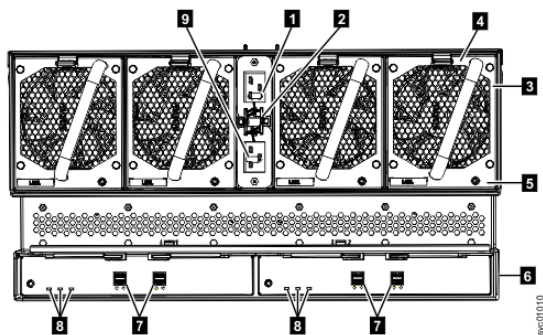
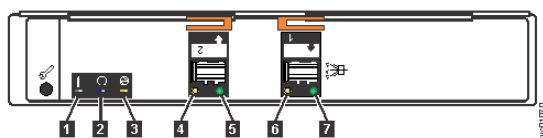

Figure 204. LEDs on the back of the expansion enclosure
Figure 205. LEDs on the back of the expansion canister
Table 68 on page 227 explains the function and status that is indicated by each of the LEDs. The power cords for each PSU are accessible from the rear of the expansion enclosure (1), as shown in Figure 204 on page 229.
Figure 204 on page 229 shows the rear view of a expansion enclosure. LEDs on the rear of the enclosure provide information about each fan module, each expansion canister, and SAS links.
The expansion enclosure has four fans. Each fan has one LED; for example, Figure 204 on page 229 shows the location of the LED (5) for fan number four. When a fan is operating normally, the LED is not lit. If a fault is detected, the amber LED is lit.
As Figure 204 on page 229 also shows, the expansion enclosure contains two expansion canisters. Each expansion canister contains its own set of LEDs, as shown in Figure 205 on page 229. The LEDs provide status information about the expansion canister itself and the SAS connections.